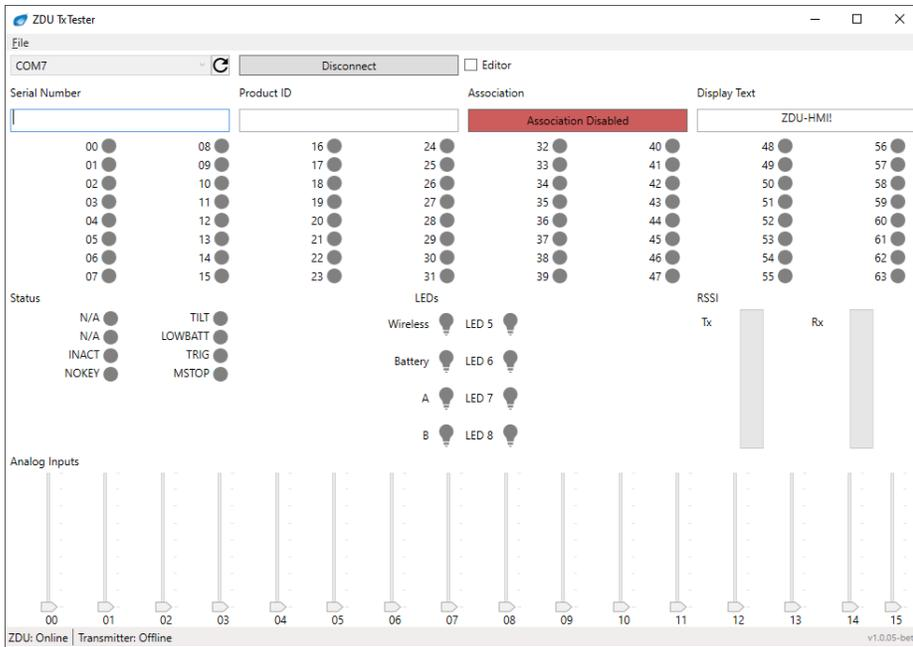

Figure 7. ZDU online
6. Click Connect. The status bar should now show **Status: Online** as in Figure 7. The ZDU is now ready for transmitter link and testing.